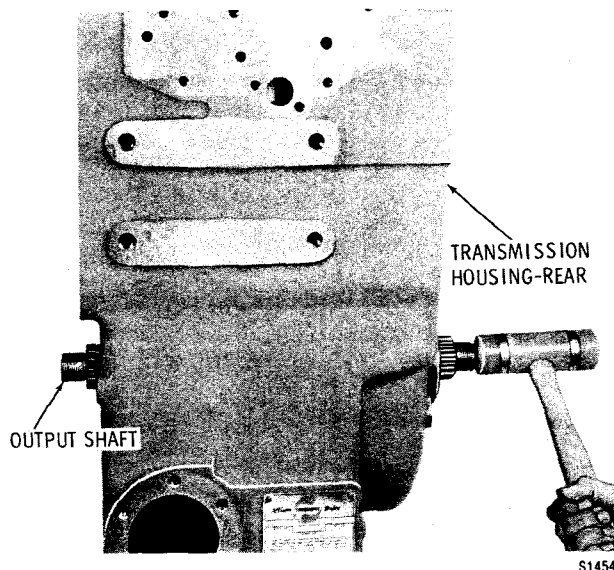

Fig. 5-62. Loosening output shaft front bearing (-1 models with one-piece output shaft)
(3) Using a soft hammer, drive the output shaft forward until the front bearing is free from the housing bore (fig. 5-62).